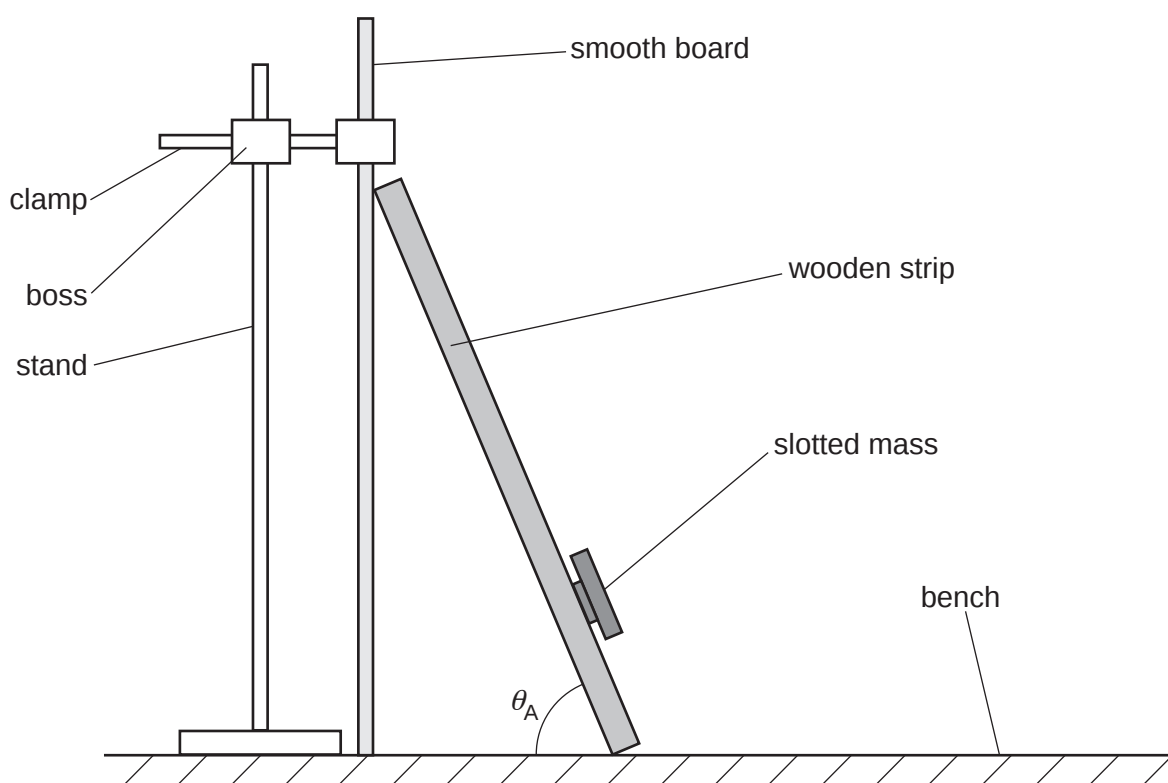

Fig. 2.2
- (ii)** You have been provided with a smooth board. Support the board vertically on the bench using the stand, boss and clamp, as shown in Fig. 2.2.
- Lean the strip against the smooth board with the slotted mass nearer the lower end, as shown in Fig. 2.2.
- The angle between the strip and the bench is θ_A , as shown in Fig. 2.2.